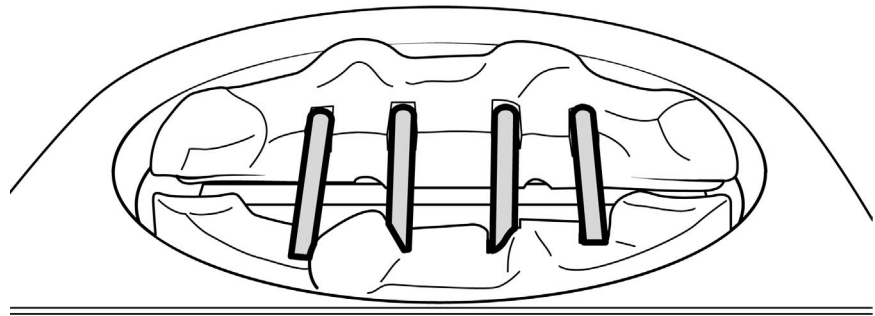

Figure 7. Ceramic support rod location
3. There are four ceramic support rods. Locate the ceramic support rods into the slots of the ceramic base (See figure 7)